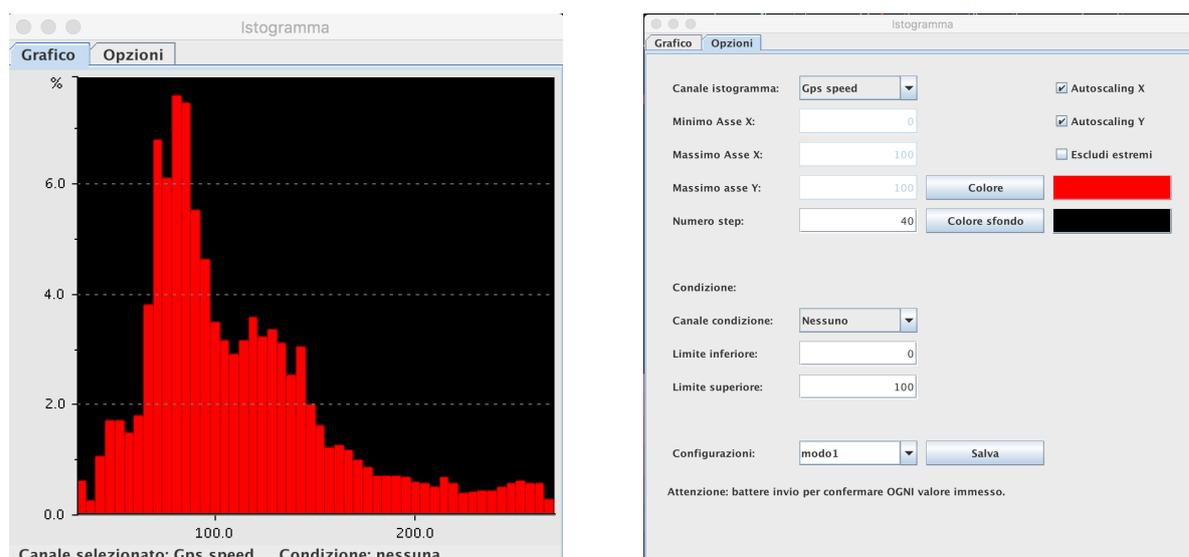

Fig. 41 – Histogram and its options
- Histograms:** this function allows you to create one or more histograms relative to the channels. Using *open new histogram* allows you to create a new histogram as shown in figure 41. The options tab allows you to configure the channel that you want to histogram, the minimum and maximum values of your interest, the maximum value of the Y-axis of the histogram and finally the number of steps that you want to use to compute the histogram. The *autoscaling* functions automatically sets the full scale ranges. In case of histograms related to the sessions, the remove edges option allows you to discard the first and the last lap of the session. Histograms can be customized also in terms of color and background color using the corresponding fields in their options tab.